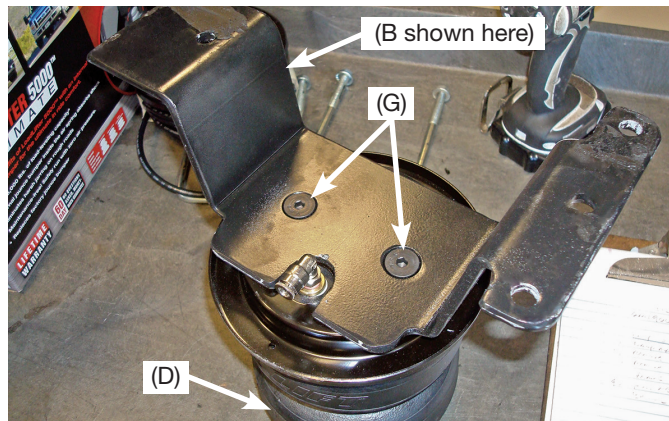

fig. 13
3. Install the upper bracket (A or B) onto the air spring (D) using four flat-head screws (G) (fig. 13). Torque to no more than 20 lb.-ft. (27Nm).